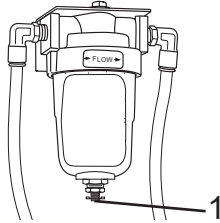

Figure 163
1. Locate the drain fitting (Figure 163, Item 1) on the bottom of the coalescing filter.